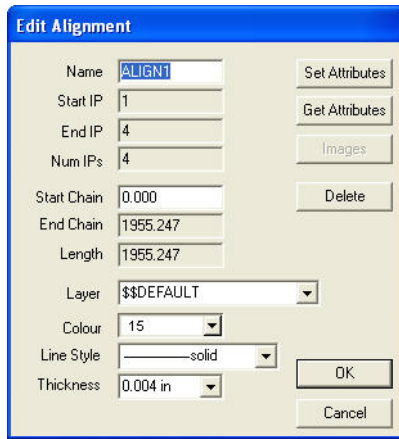

Figure 4-14. Alignment Attributes and Parameters
An alignment is usually the center line of a road, pipeline, service, or other feature. It is often used to produce profile and cross section data and is essential for designing a road. An alignment consists of a number of intersection points (IP) joined together with lines. An IP is linked to a point in the database. If it represents a curve in a road, then the IP may have arc and spiral parameters defined. It is not necessary to create any line segments before creating an alignment, although this may be helpful. Existing line or string data may be converted to an alignment (Figure 4-14 on page 4-22).